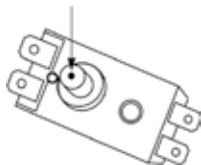

Fig. 13
- for FSM1/FSQ1 series vertical-type water heaters: unscrew retaining nut of the thermal switch, fastened on the flange of the heating element, turn the thermal switch and press the button, located in the center of the thermal switch, until it clicks; Fig. 13;